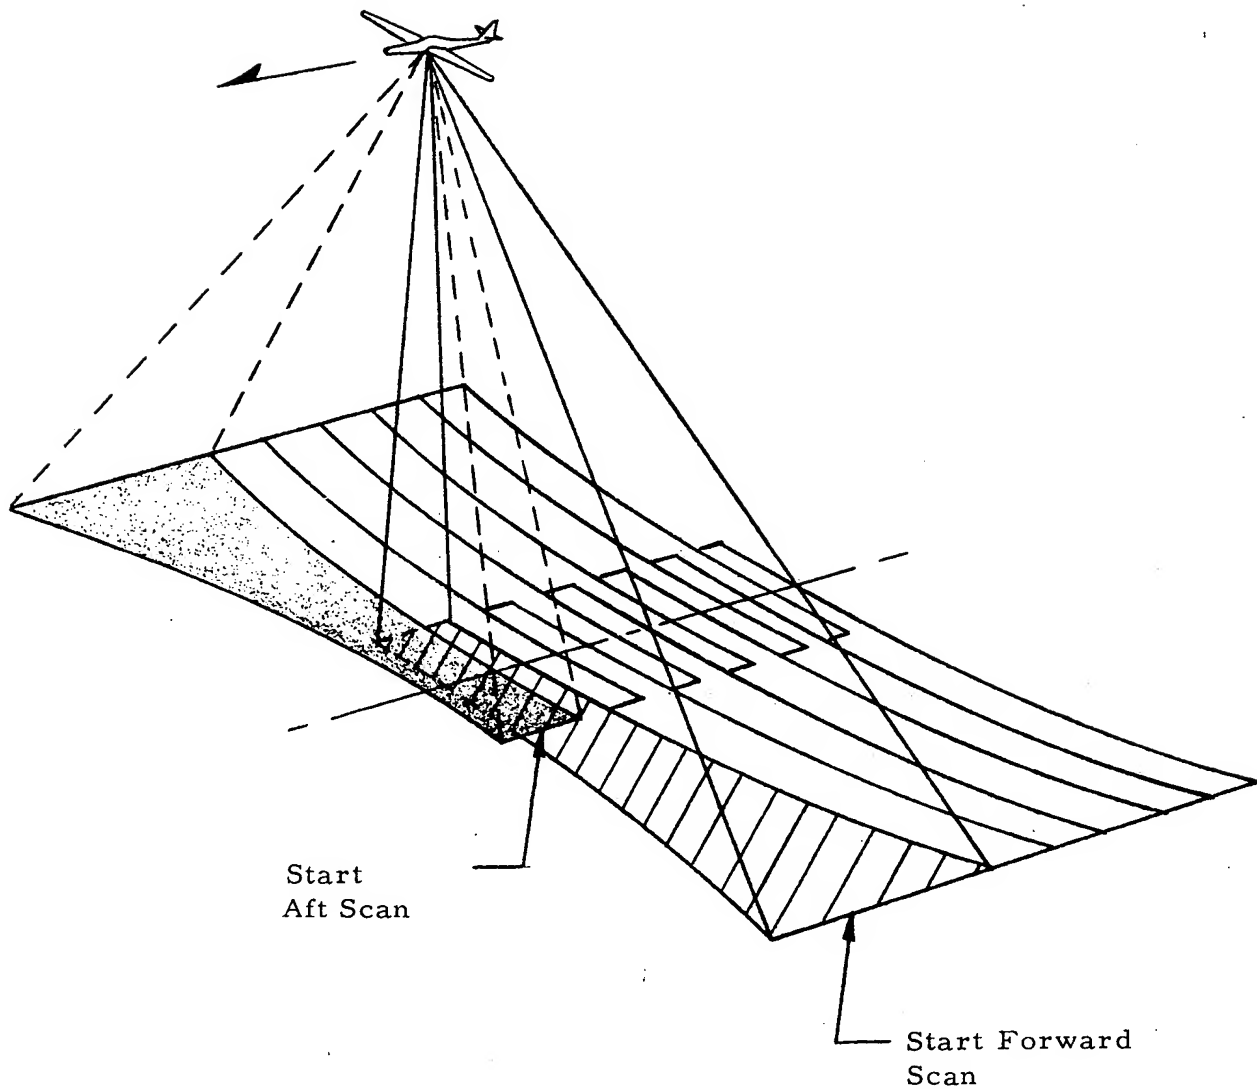

Figure 2-1. Aerial Panoramic Photography, Type II
- 2-3. Photographic coverage of the Type II system is represented in Figure 2-1. The forward camera scans the earth from 63° to the left of nadir to 30° to the right of nadir. The aft camera scans the earth from 30° to the left of nadir to 63° from the right of nadir. Each mission can provide 3670 nautical miles of flight line coverage on 2828 frames and 50 to 63 miles (or 126°) total transverse coverage. The scan overlap provides full stereo viewing of mission results for all points on each frame format. In addition to normal stereo, convergent stereo is available within the scan overlap of 30° each side of the vertical centerline. See Figure 2-2.